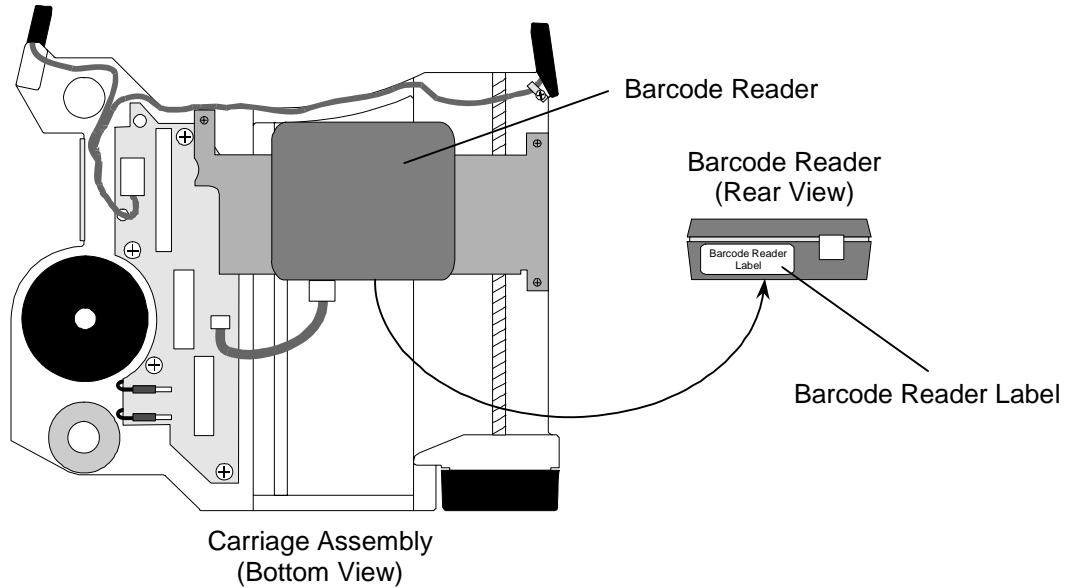

Figure 7-46 Barcode Reader Label
3. Inspect the label on the Carriages to determine their revision levels (e.g., Carriage: B). See Figure 7-46.
4. If a Barcode Reader or Readers are installed, inspect the labels to determine model numbers (e.g., WA3700/B-2221). See Figure 7-46.